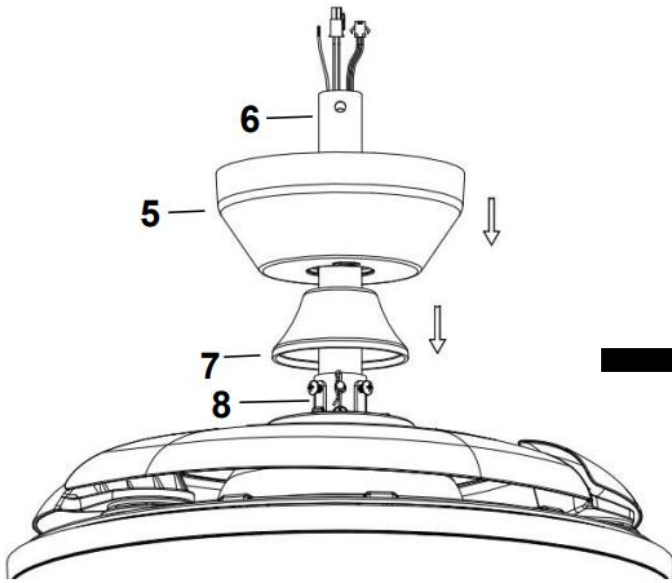
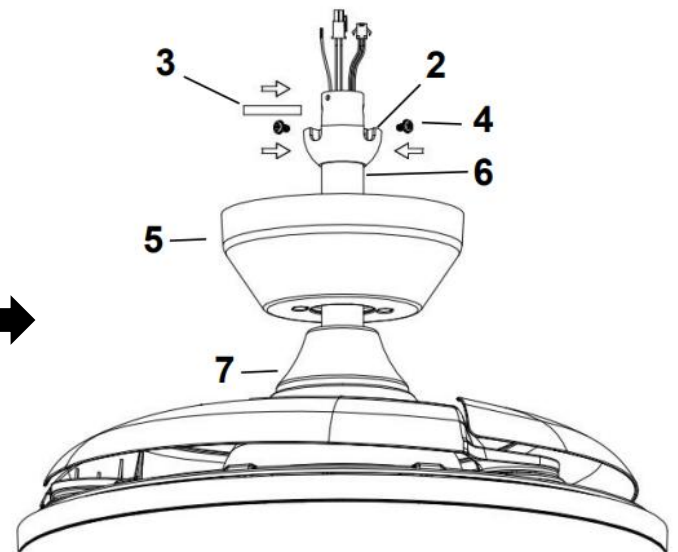

Fig. 4.5
Fig. 4.6
6. Insert the Bolt and pin cover (7) onto the down rod (6) to cover the down rod coupling housing (8). (Fig. 4.5)
7. Insert the canopy (5) over the down rod (6) and install the ball joint (2) and dowel pin (3) back onto the down rod (6) and secure by tightening the set screws (4). (Fig. 4.5 and Fig. 4.6)